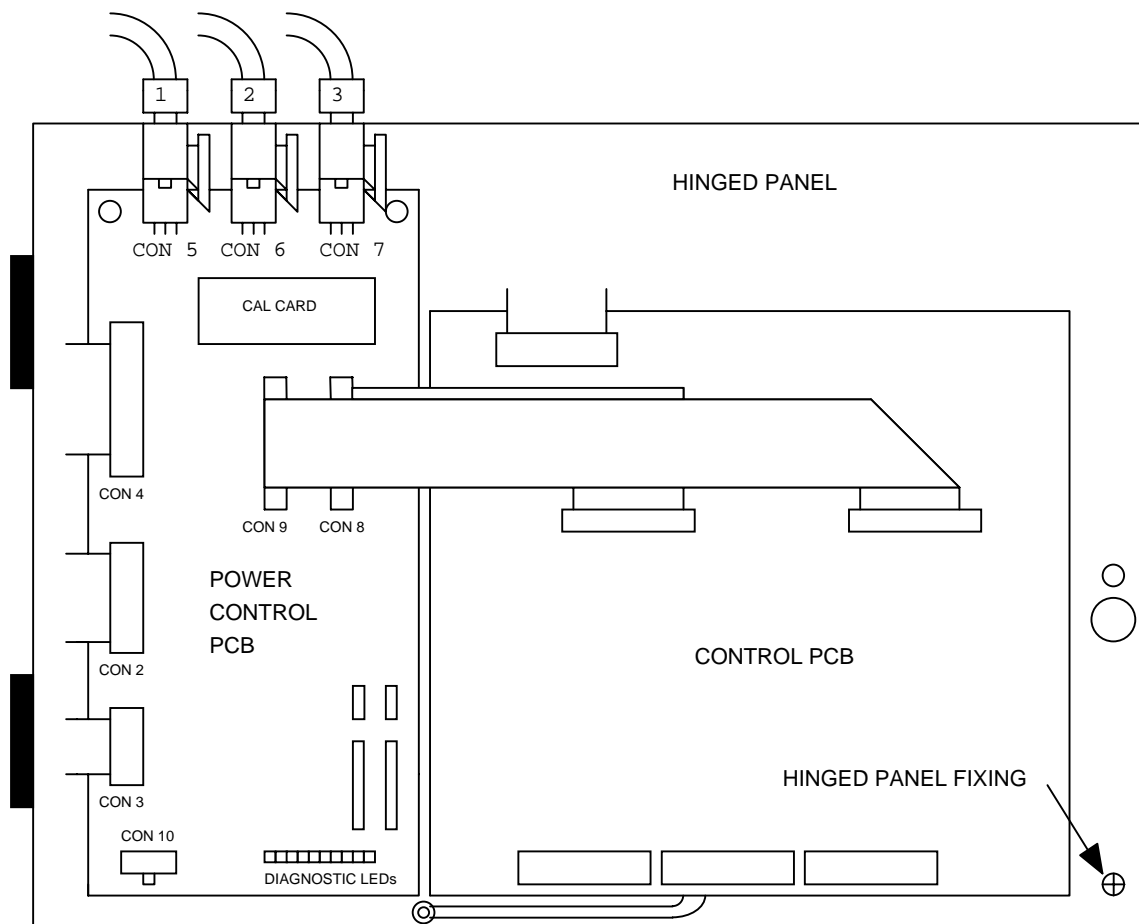

Figure 9.1
2. Disconnect 30-way op-station ribbon cable from power control PCB CON 10 (see figure 9.1).
4. It is now possible to view the power control PCB, control PCB and cal card as shown in figure 9.1.
7. Re-connect 30-way op-station ribbon cable to power control PCB CON 10 (see figure 9.1).
1. Follow steps 1 to 3 of procedure 'Power Control PCB, CAL card and control PCB replacement'. Release hinged panel fixing - 1 off ¼ turn fastener as shown in figure 9.1.
4. Re-fit hinged panel and ¼ turn fastener as shown in figure 9.1.
6. Re-connect 30-way op-station ribbon cable to power control PCB CON 10 (see figure 9.1).
4. Release hinged panel fixing - 1 off $\frac{1}{4}$ turn fastener as shown in figure 9.1.
7. Re-fit hinged panel and $\frac{1}{4}$ turn fastener as shown in figure 9.1.
9. Re-connect 30-way op-station ribbon cable to power control PCB CON 10 (see figure 9.1).
5. Release hinged panel fixing - 1 off $\frac{1}{4}$ turn fastener as shown in figure 9.1.
12. Re-connect 30-way op-station ribbon cable to power control PCB CON 10 (see figure 9.1).